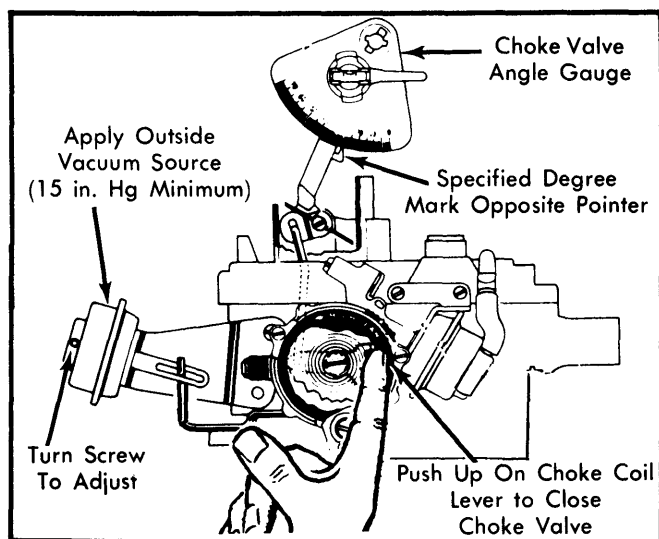

Fig. 7 Adjusting Rear Vacuum Break
1) Using an outside vacuum source of at least 15 in. Hg, seat secondary (rear) vacuum break diaphragm. See Fig. 7.